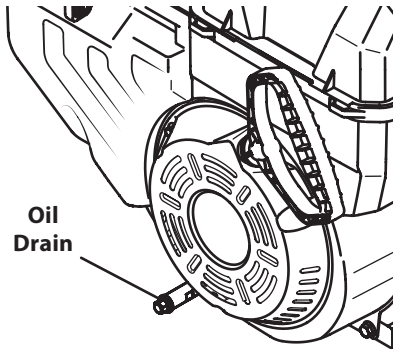

Figure 6-3
6. Remove the Oil drain plug. See "Figure 6-3".